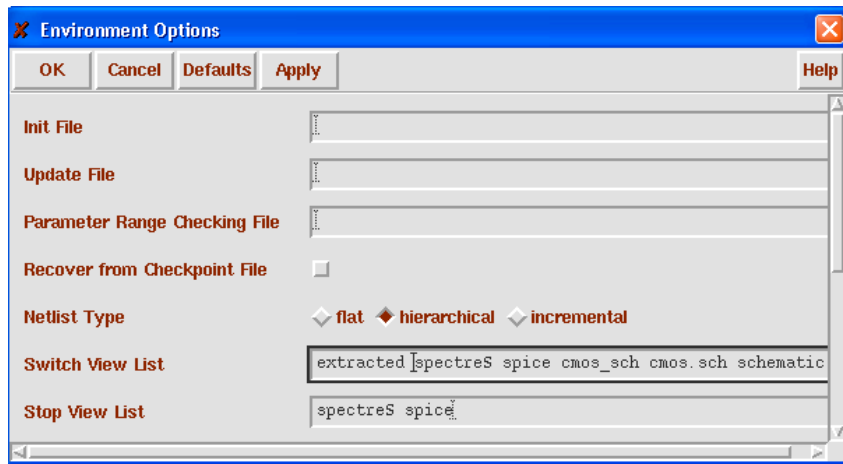

Figure 25. Simulation environment options
2. From the **Setup** menu choose the **Environment** option. A new dialog box controlling various parameters of Analog Artist will pop-up (Fig. 25). The line that we will have to alter is called the *Switch View List*. This entry is an ordered list of cell views that contain information that can be simulated. The simulator (in fact the netlister) will search until it finds one of these cellviews. The default entry does not contain an extracted cellview. We will simply add an entry for extracted cellview before the schematic cellview. As a result of this modification, the simulator will use the extracted cellview of the cell, if one is available.